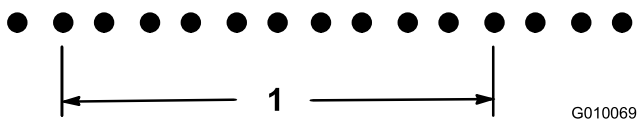

Figure 65
21.2 divided by 10 is 2.12, hole spacing is long by .12 inch from nominal (Figure 65).